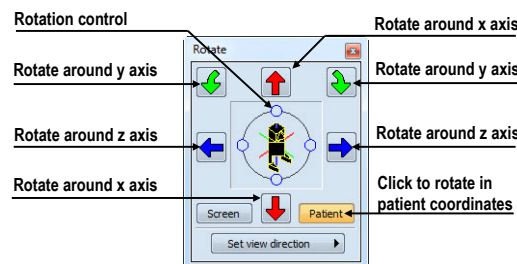

Figure 270 – Rotate tool (Patient mode)
- rotation in patient coordinates (see Figure 270)